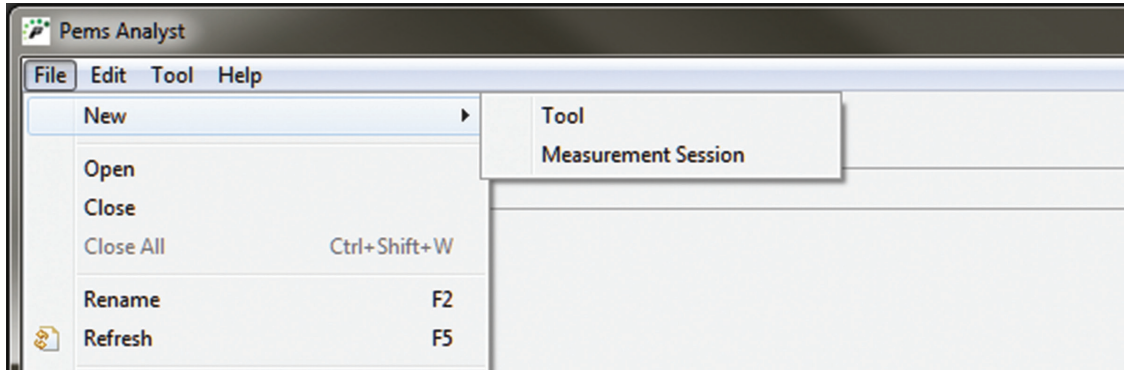

Figure 2-14 - Create New Measurement Session
1. Create a New Measurement Session. Go to the PEMS Analyst window. Select File → New → Measurement Session. See Figure 2-14.